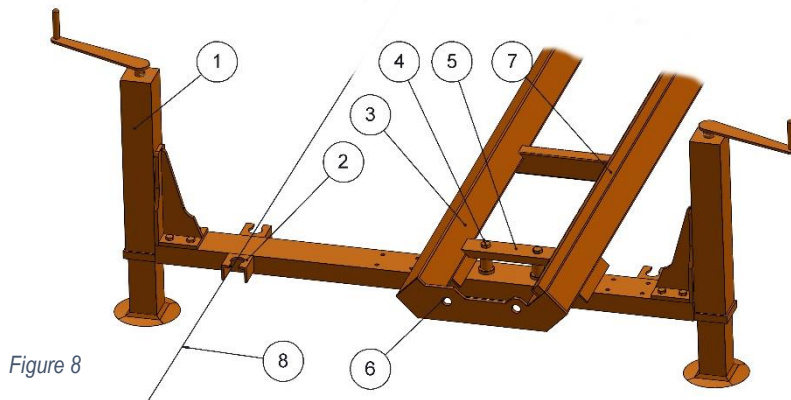

Figure 8
1. Fix the cross-members to the ends of the carriage support track, using the small cross-member provided (see fig.8).